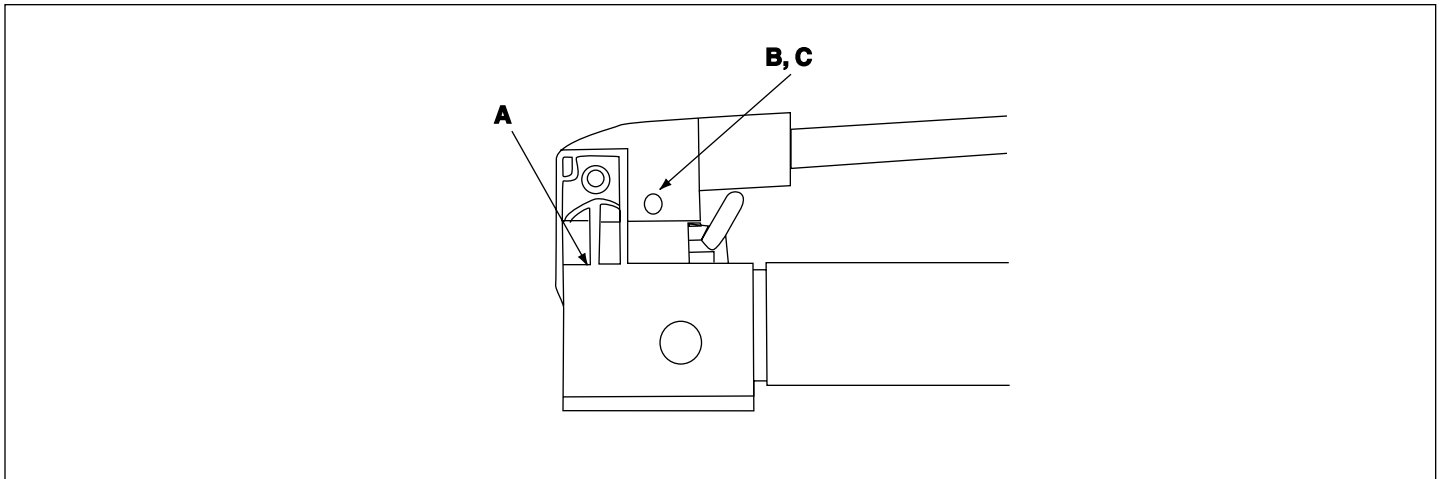

Figure 4
To extend pump life and improve performance, lubricate the beam pin (A), cross pin (B), and piston head (C) regularly, using roller bearing grease. See Figure 4 below.